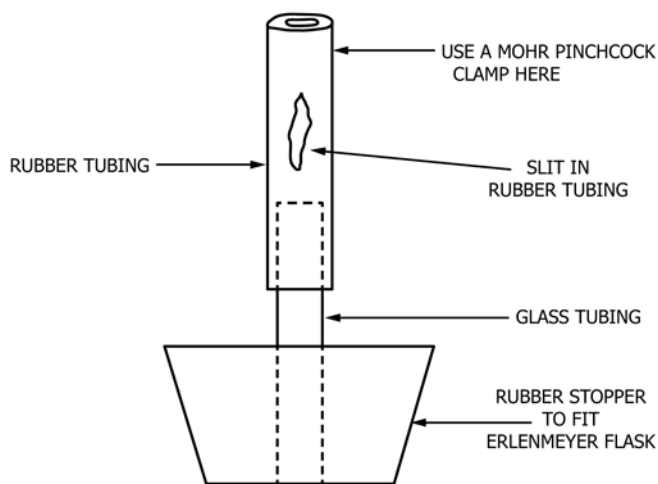

FIG. 1 Apparatus
5.1 *Bunsen Valves*—A device constructed so that when used with an Erlenmeyer flask, the sample vapors can exit the flask while protecting the flask's liquid contents. See Fig. 1 for details.